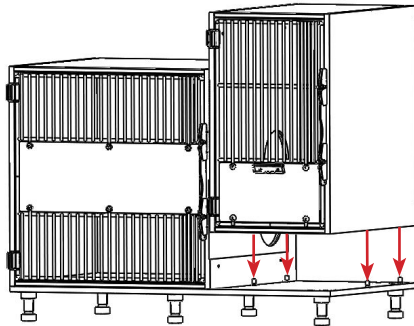

FIGURE 2.21 - First Row Litter Unit
STEP 5: Carefully lift and align the second component with the guide pins along the edge of the platform base. The litter unit is used for these instructions, component placement may vary per order. See FIGURE 2.21